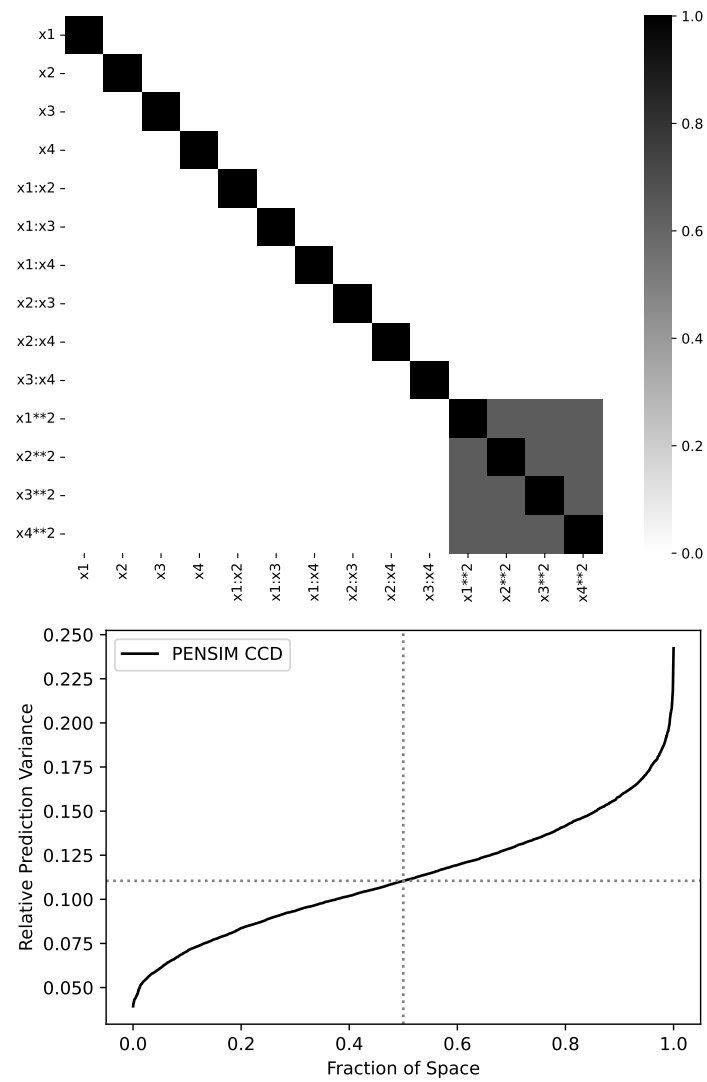

Fig. 8.3: Graphical evaluation of the experimental design setup in dataset **PENSIM.CDD.csv**
(1) Using the code from Sect. 5.10, we create the correlation plot and the fraction of design space plot shown in Fig. 8.3. The correlation plot shows that the design allows estimating all main effects and two-way interactions.